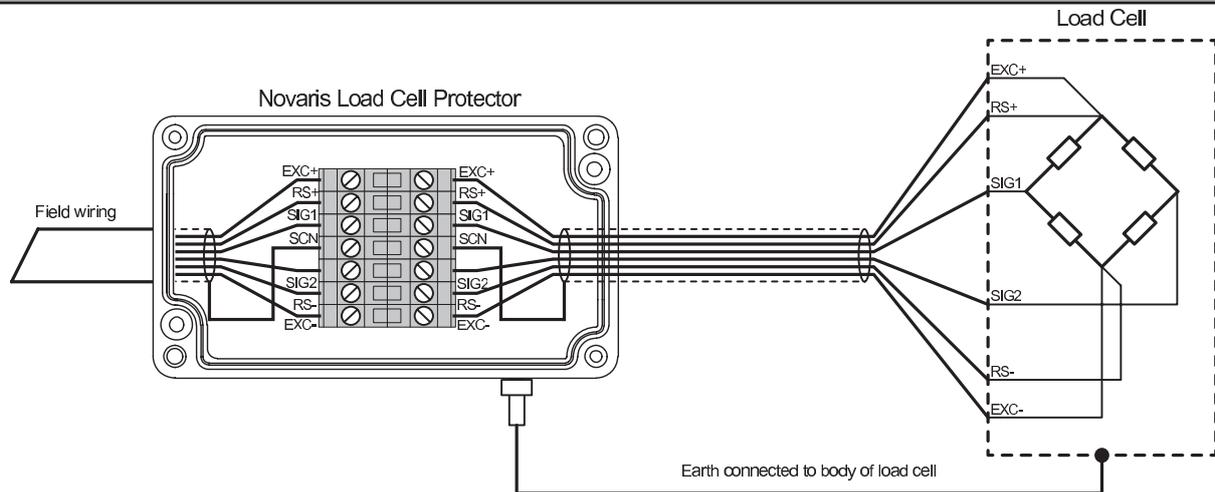

Figure 3: Installation of load cell protector
- 3.4 **Wiring:** Load cell protectors are connected in series with the equipment (Figure 3). The load cell or measuring equipment to be protected is connected to the load cell (equipment) side of the load cell protector. The field wiring is connected to the instrument (line) side of the load cell protector. For 4-wire load cells, the RS+ and RS- terminals can be left unconnected.